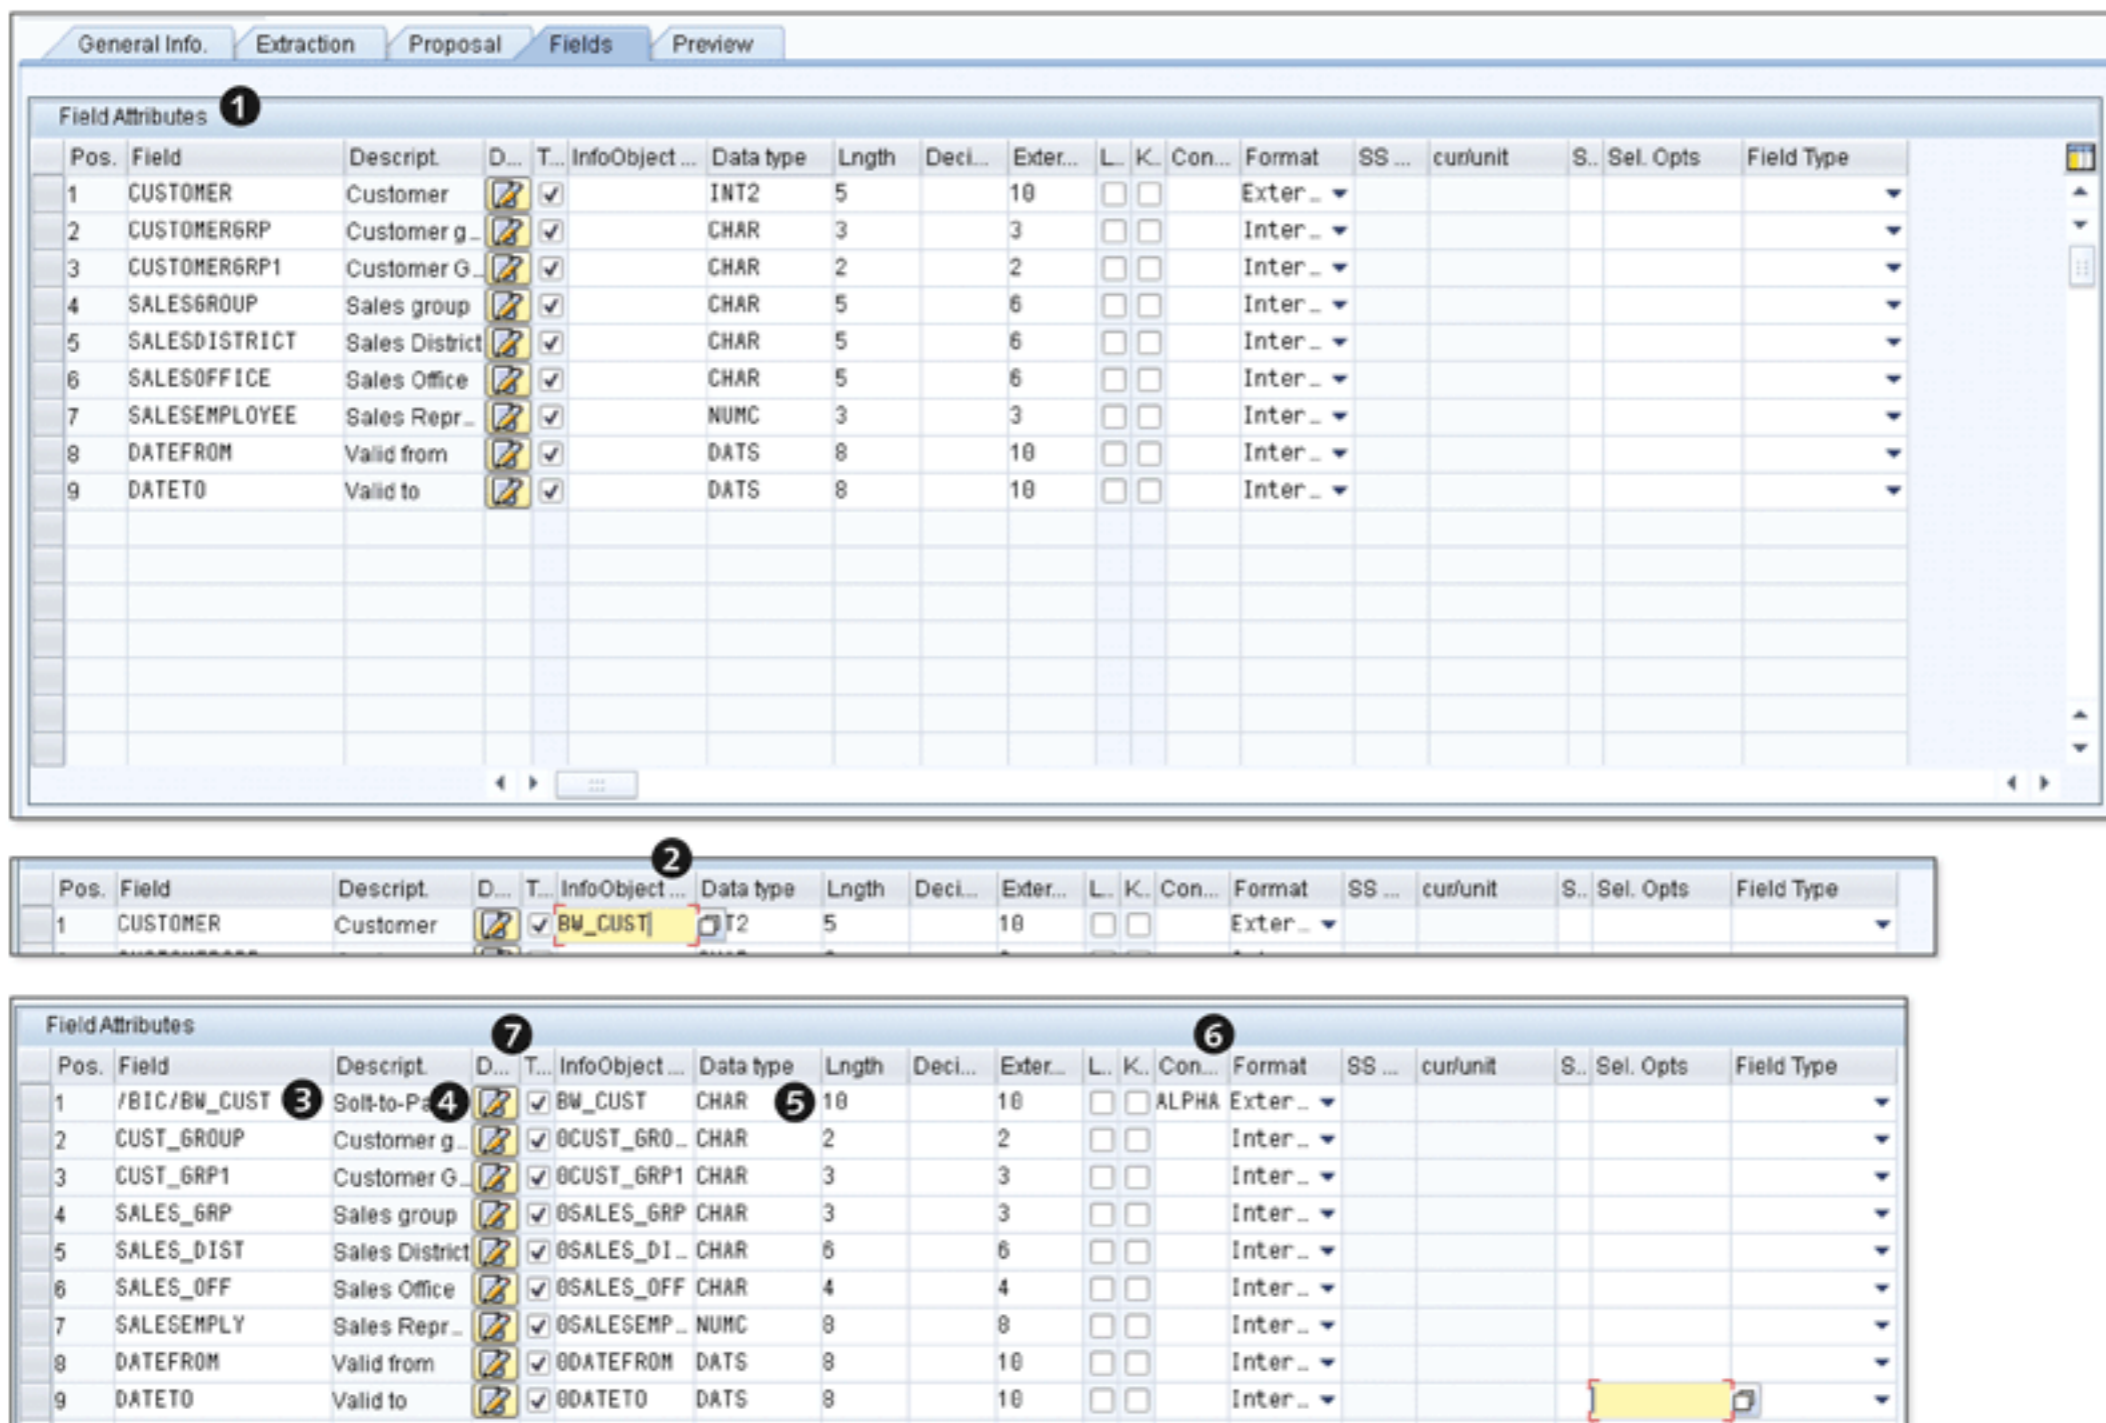

Figure 7.14 Create DataSource: Fields Tab
This is the tab where you finalize the structure of your DataSource. The data proposed by the system (in the PROPOSAL tab) also appears here (❶ of Figure 7.14), and you can overwrite, if necessary. It's important to make sure that the sequence of fields given in this screen is the same as in the actual data file. Because we've used the proposal function, we don't have to worry about this; however, we do need to correct the technical specifications of the fields proposed. The best way to do this is to enter the technical name of the InfoObject in the InfoObject column. As we know from the data available in the actual data file, the first field pertains to the customer, which means InfoObject BW_CUST is used. Enter "BW_CUST" in the InfoObject column (❷), and press `[Enter]`. The DEFAULTS FROM INFOOBJECTS pop-up box appears. Click on the COPY button, which reads the metadata definition of the InfoObject.
The result is shown in ③, ④, ⑤, and ⑥ of Figure 7.14. The system now reads the metadata from InfoObject BW_CUST, so the data type is changed from INT2 to CHAR. The conversion routine is also added as ALPHA, which was blank earlier.
Another important setting in this tab is shown in the T column (⑦ of Figure 7.14), which stands for "Transfer." A checkmark in this column indicates that you've chosen to include this field in the definition of the DataSource. Our example requires that all of the fields be included, so we leave all fields checked.